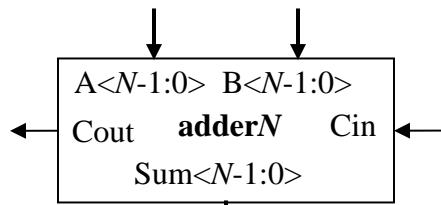

Figure 1 - N -bit Binary Adder Block Diagram
For this lab, we will consider the design of a binary adder. Binary adders are a key component of logic circuits. They are used not only in the arithmetic logic units (ALU) for data processing but are also used in other parts of a logic processor to calculate addresses and signal evaluations. An N -bit binary adder takes two binary numbers (A and B) of size N and a carry-in (C_{in}) as inputs, sum up the three values, and produces a sum (S) and a carry-out (C_{out}), as shown in Figure 1.